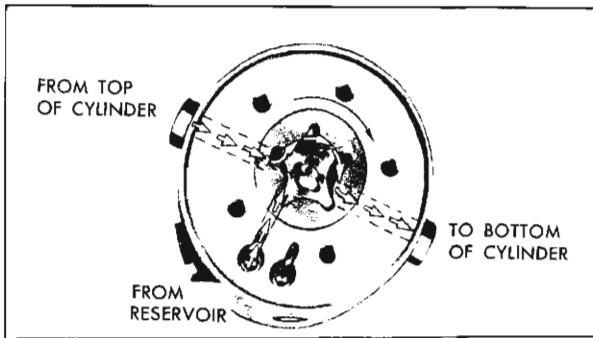

Fig. 21-63 Pump Operation—Raise Top
1. Raising the Top. When the red motor lead is energized the motor drive shaft turns the rotors clockwise as indicated by the large arrow in Fig. 21-63. The action of the pump rotors forces the fluid under pressure to the bottom of each cylinder forcing the piston upward. This action causes the fluid above the piston in each cylinder to be forced into the pump which recirculates the fluid to the top of each cylinder. The surplus hydraulic fluid due to piston rod displacement flows into the reservoir.